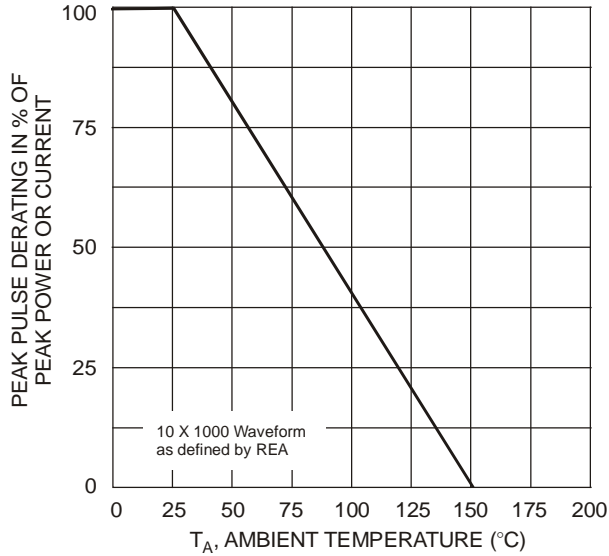
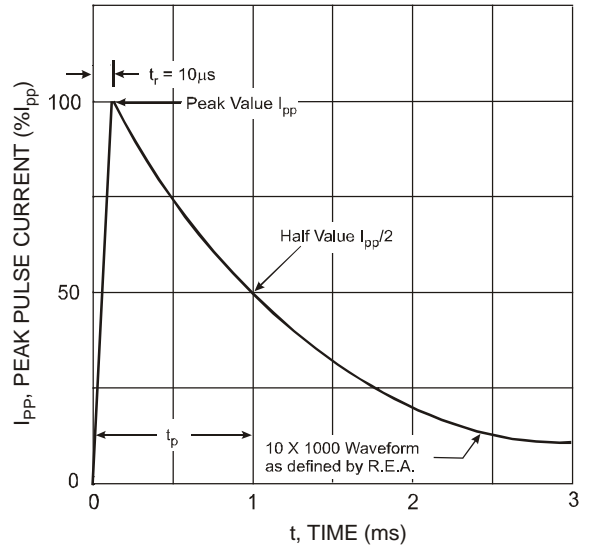

Fig. 1 Pulse Derating Curve
Fig. 2 Pulse Waveform
2. Non-repetitive current pulse per Figure 2 and derate above $T_A = 25^\circ\text{C}$ per Figure 1.